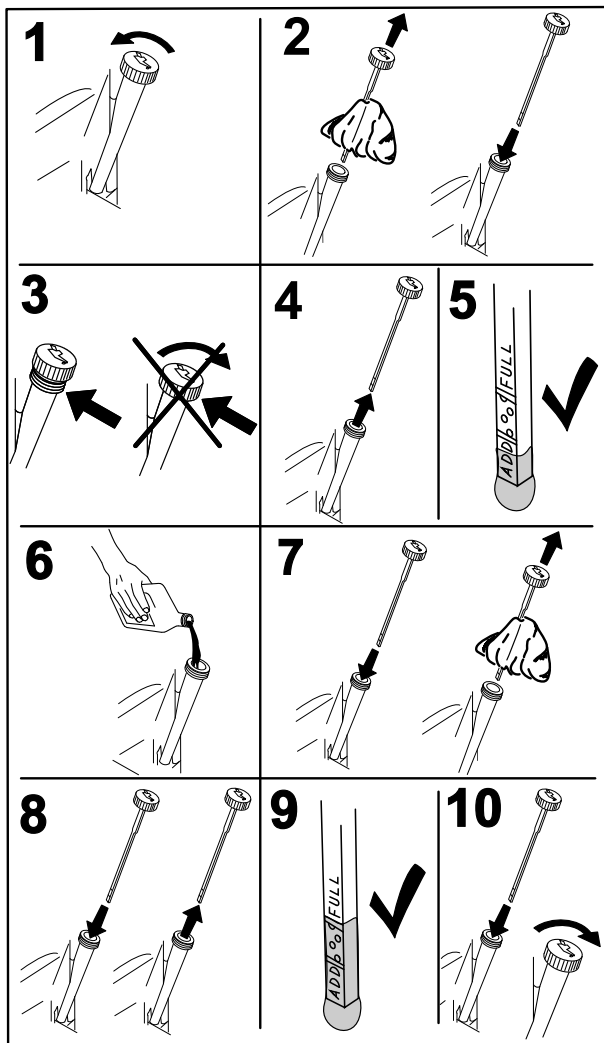

**Figure 31**
2. Check the oil as shown in Figure 31.